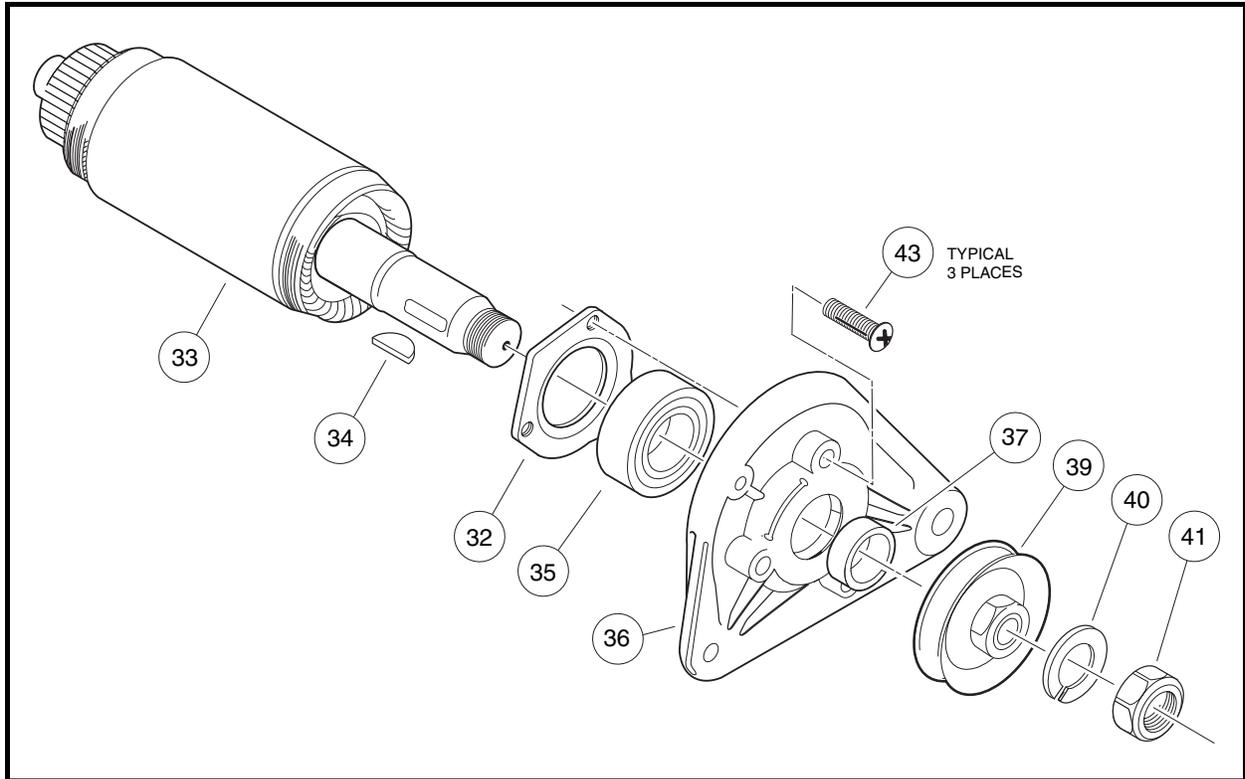
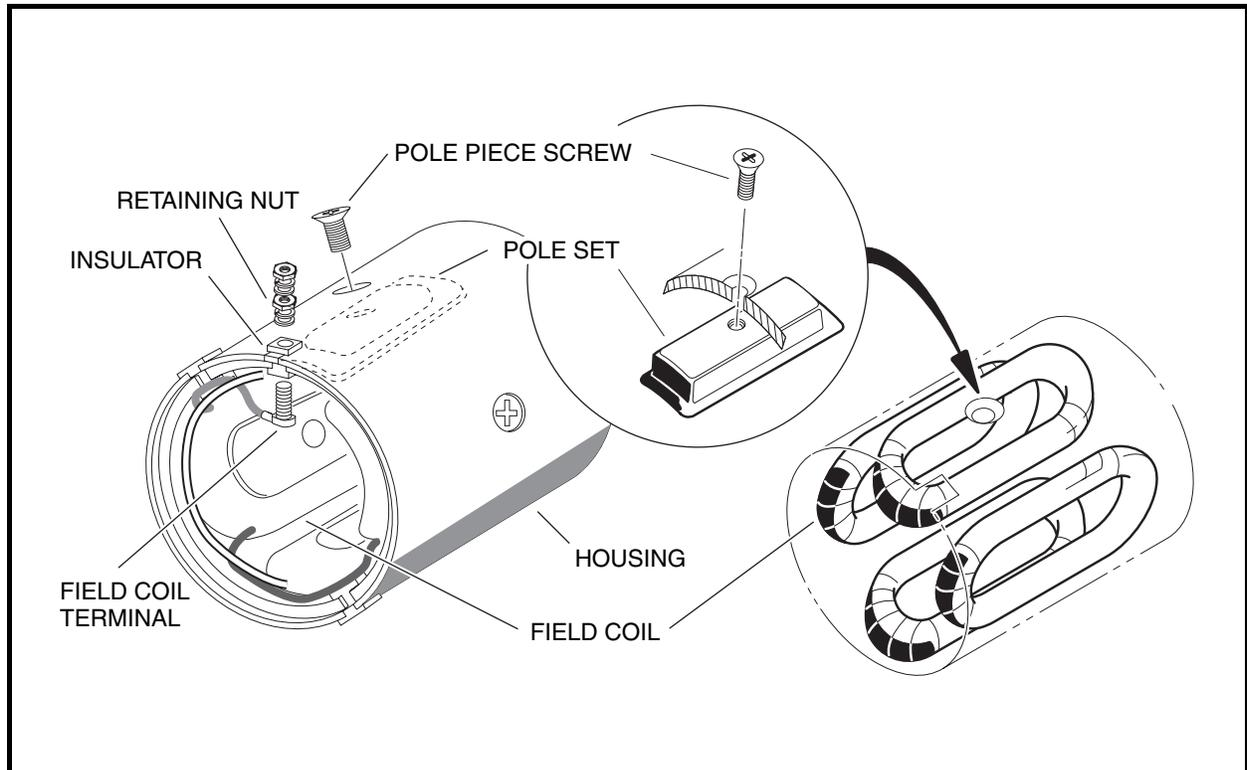

Figure 12-7 Armature and Output End Cover Assembly
Figure 12-10 Field Coil Assembly
3. To separate armature (33) from output end cover (36), remove nut (41), lock washer (40), pulley (39), shaft key (34), spacer (37), and bearing retainer screws (43) **(Figure 12-7, Page 12-5)**.
3. Slide the bearing retainer (32) off of the output end of the shaft (**Figure 12-7, Page 12-5**).
1. Remove the retaining nut from each field coil terminal and slide the insulator out of the slots in the housing. Remove the four pole piece screws from the housing. Remove the four pole pieces from inside the housing. Remove the field coils from the inside of the housing (**Figure 12-10, Page 12-7**). **See following NOTE.**
**NOTE:** Do not remove the insulators or the field coils unless an electrical test indicates that it is necessary (**Figure 12-10, Page 12-7**). See **Test Procedure 8, Section 11, Page 11-15**.
2. After the insulators are seated in the slots, install the threaded terminals through the wire connectors and then through the insulators. Install a flat washer, lock washer and nut onto each threaded terminal on the outside of the housing. Tighten nuts to 47.5 in-lb (5.4 N·m) (**Figure 12-10, Page 12-7**).
3. Install the four pole pieces into the housing. Use the four screws to secure pole pieces to the inside of the housing to retain the field wires. Tighten screws to 9 ft-lb (12.2 N·m) (**Figure 12-10, Page 12-7**).
4. Slide the bearing retainer onto the output end of the armature shaft (33) so that it will hold the outside of the bearing (35) only.
5. Press a new ball bearing (35) onto the output end of the armature (**Figure 12-7, Page 12-5**). Press a new ball bearing onto the commutator end of the armature shaft. **See following CAUTION.**
6. Install the output end cover (36) onto the armature. Secure the bearing retainer (32) to the cover and tighten the screws (43) to 39 in-lb (4.4 N·m) (**Figure 12-7, Page 12-5**).
11. Slide the spacer (37) onto the end of the shaft. Insert the shaft key (34) into the shaft. Install the belt pulley (39) onto the shaft, and install the lock washer (40) and M14 nut (41). Tighten the nut to 28 ft-lb (38.0 N·m) (**Figure 12-7, Page 12-5**).